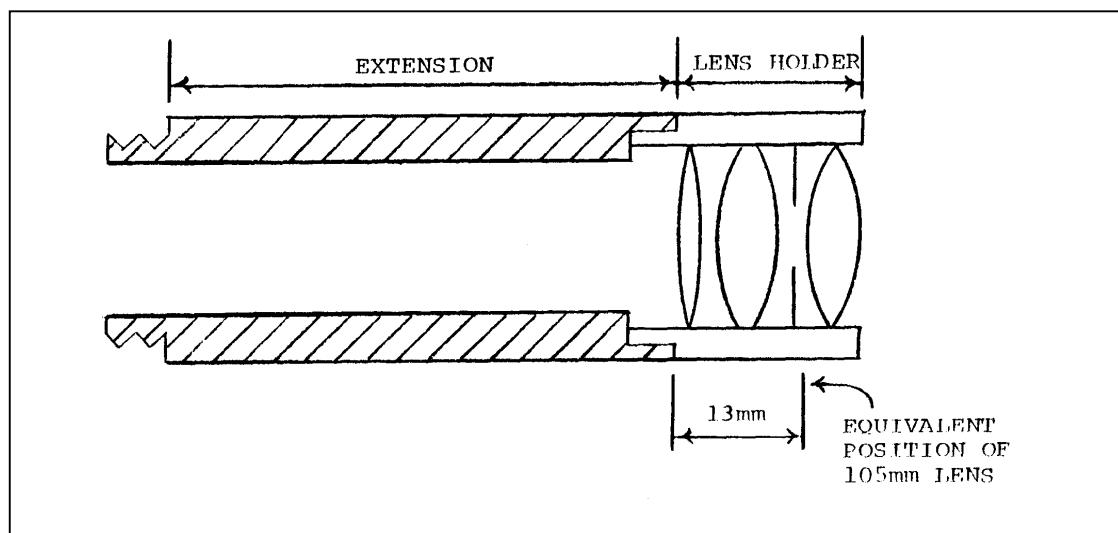

Figure 6
*Figure 6* shows that the equivalent 105mm lens cannot be considered to be located exactly at the end of the extension tube. Its equivalent position is, in fact, approximately 13mm further along the optical axis than the position used in the calculations. This positioning of the lens in its diaphragm varies with different manufacturers and no one rule will solve the problem.